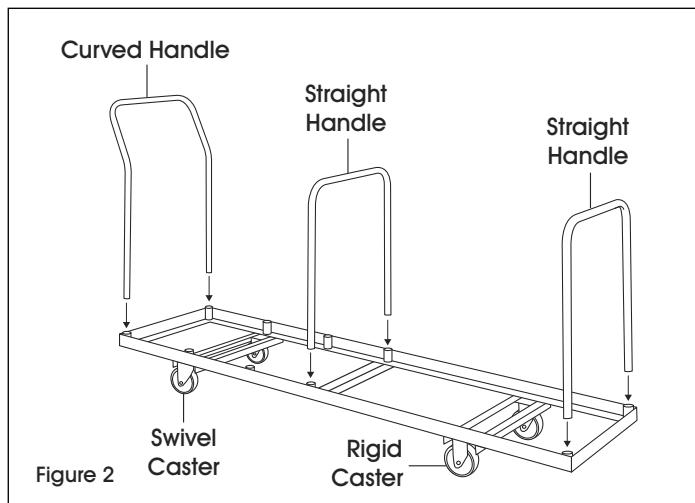

Figure 2
2. Insert curved handle into sockets at end of dolly frame that has swivel casters. (See Figure 2)
3. Insert one straight handle into sockets at other end of dolly frame. (See Figure 2)
4. Load desired amount of chairs onto dolly and place second straight handle into pre-set sockets that best fit the amount of chairs that have been loaded. These sockets are located at set intervals on the dolly frame. (See Figure 2)